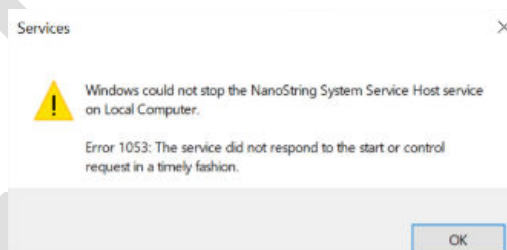

Figure 2: Restart error
- An error may occur when **restarting the System Service** via Services (see Figure 2). If this occurs, shutdown and restart the GeoMx instrument as instructed on page 1.
6. If you have followed these steps and the instrument still is not in an idle state, click **Assist** then **Restart Workflow**. Pause at “Replace Plate?” screen (Fig 2). This is an idle state.